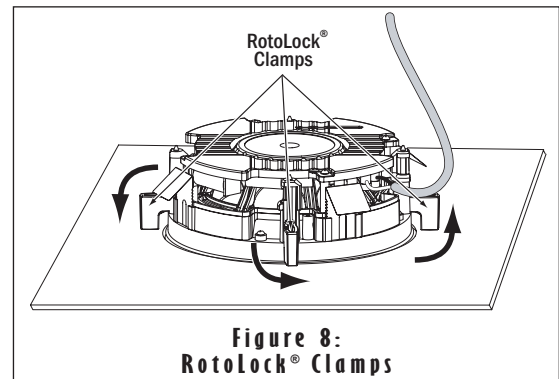

Figure 8: RotoLock® Clamps
- Tighten the four screws on the front of the speaker baffle. The RotoLock clamps will automatically rotate into position and begin clamping the speaker (Figure 8).